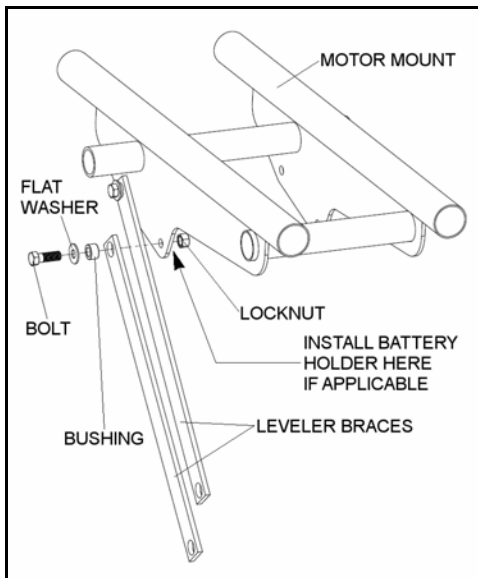

Figure 3.30 Mount Assembly
- Attach 2 vertical leveler braces to side of motor mount as shown in Figure 3.30. Use two 7/16" x 1-1/2" bolts, locknuts, 7/16" flat washers and leveler bushings to install the leveler connector. Each bolt should be installed by first putting a washer on it, followed by a bushing. Pass the bolts through the vertical leveler brace first, and then the motor mount.
If your auger comes with a battery holder, install holder before attaching locknut (see Figure 3.30). Use two 7/16" x 1" bolts and locknuts to secure the other side of the holder. See "Battery Mount (Optional)" on page 46.